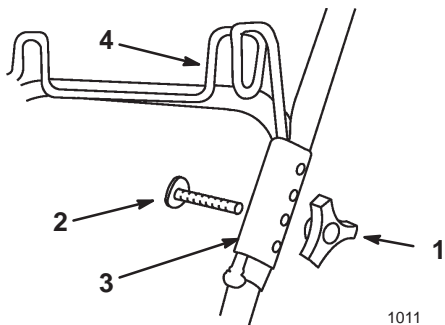

Figure 39
11. Remove the knob and bolt that secure the left side of the upper and lower handle sections (Fig. 39).
12. Hold a hanger clamp on the outside of the handle sections, and insert a bolt from the inside of the handle sections through the holes in the hanger clamp (Fig. 39).
13. Position the bag hanger leg into the hanger clamp groove and secure it with a knob (Fig. 39).
- B. Remove the bolts and knobs that secures the hanger clamps to the handle sections (Fig. 39).